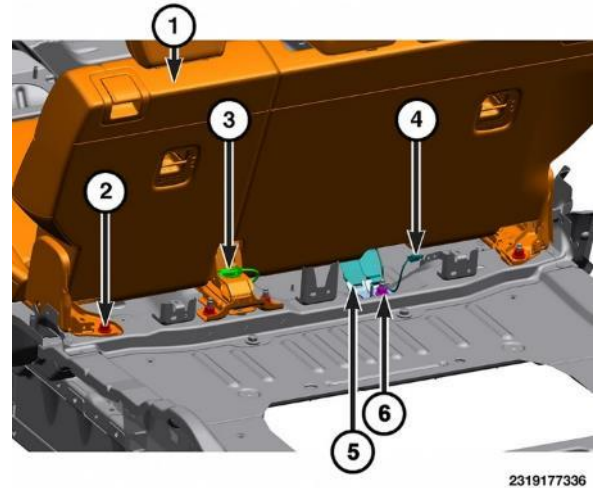

Figure 20 – Rear Seat Components
- 30. Disconnect the wire harness connectors, if equipped (4) (Figure 20).
- 31. Remove the nut for the center seat belt anchor (6). Remove the seat belts from the floor stud (Figure 20).
- 32. Remove the rear seat fasteners (2) at the rear of the seat (Figure 20).
56. Connect the wire harness connectors, if equipped (Figures 20 and 21).